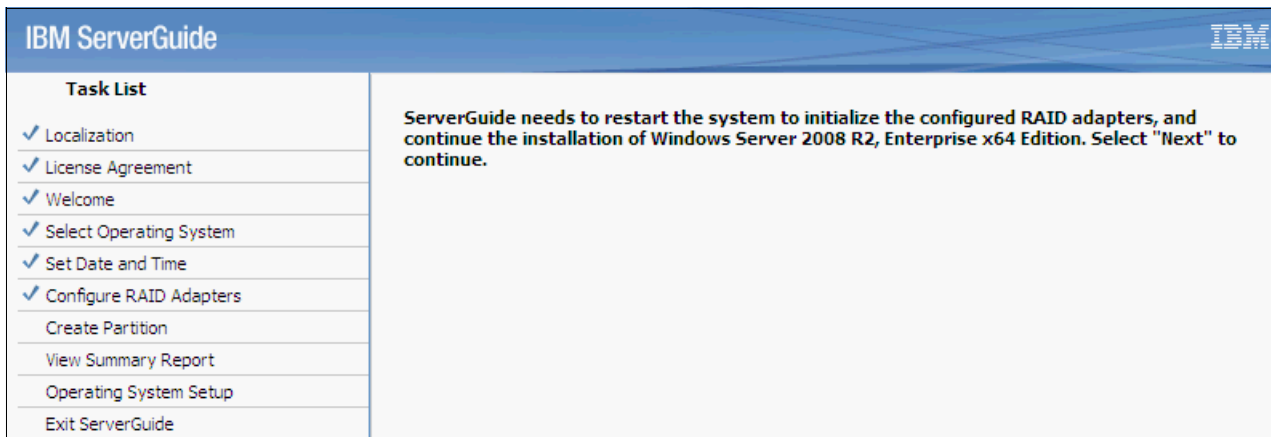

Figure 9-53 Information about the restart
13. Restart the server. After the server restarts, the server will restart again to complete the ServerGuide setup, as shown in Figure 9-53. If you previously created a RAID configuration and kept the configuration, restarting the server is not necessary. Click **Next**.